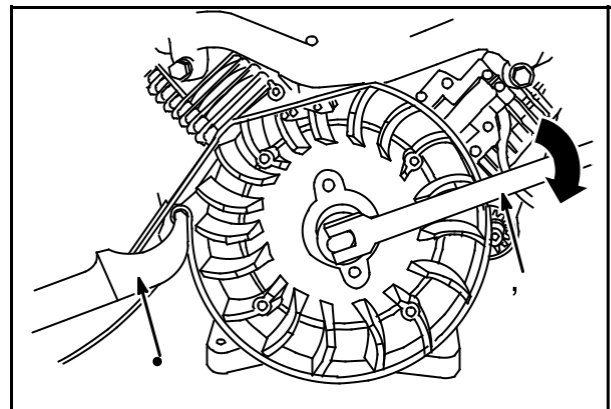

Fig. 16
Place Flywheel Strap Wrench #19433 (1) around outer rim of flywheel, **Fig. 16**.